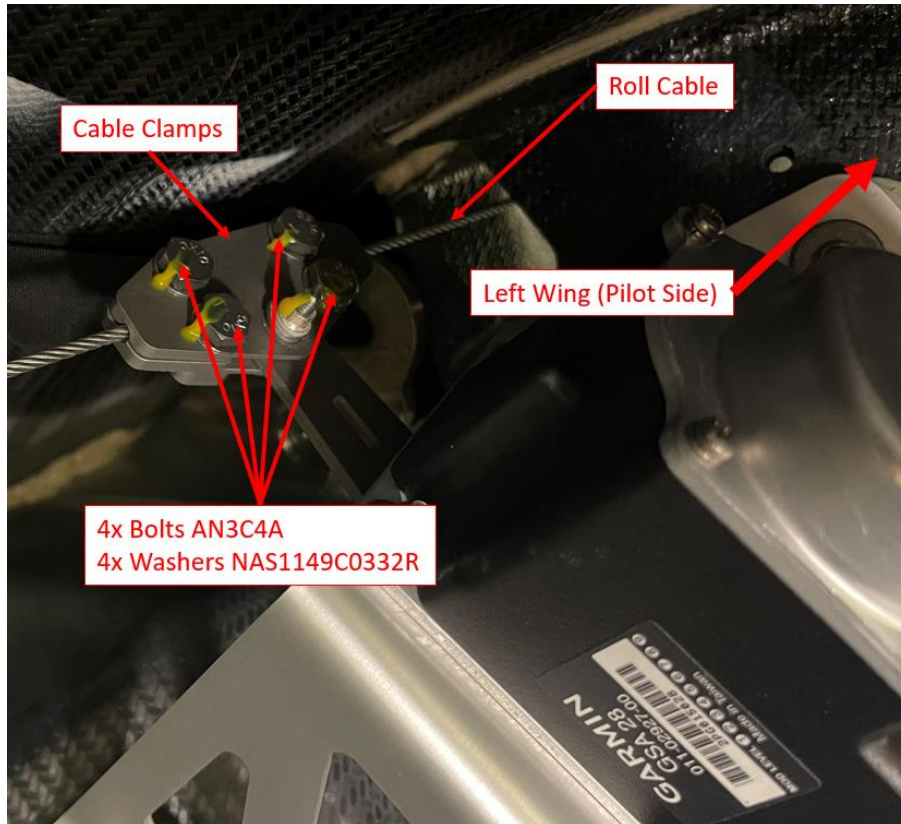

Figure 30 Roll Servo Clamp and Control Cable
24. Locate the roll servo clamp and roll control cable (see Figure 30).